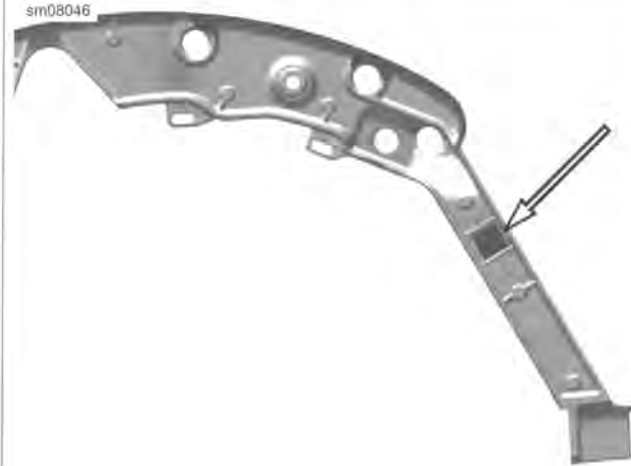

Figure 2-119. Saddlebag Supports Cushion
2. See Figure 2-119. Verify rubber cushion is in place and not damaged.